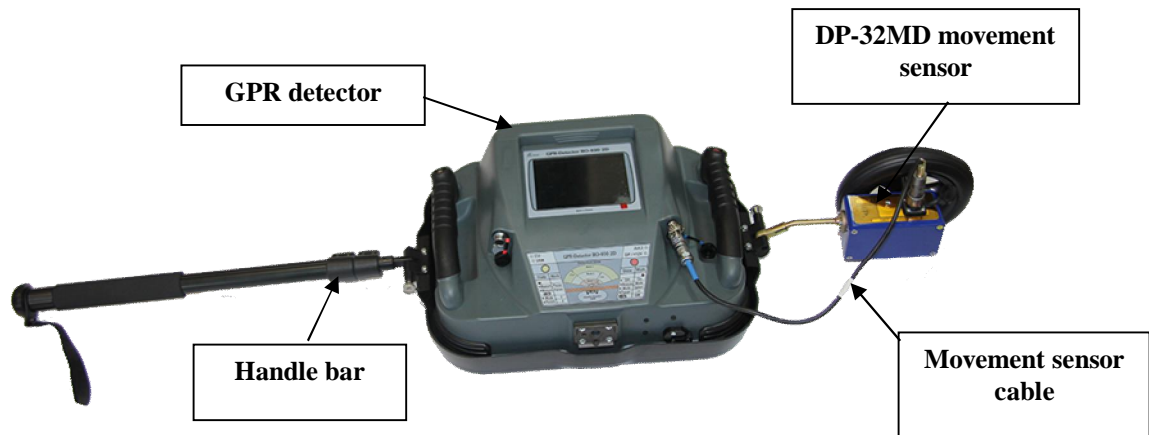

Fig. 5.3. R -400 set to carry out sounding in GPR mode
- install R -400 monoblock onto the bedplate (fig. 5.3);